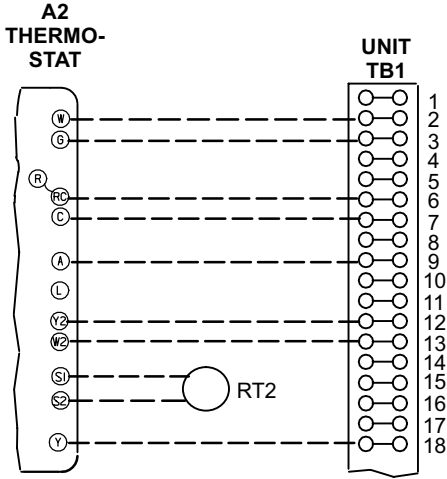

Figure 7 - Wire LG/LC/LH/SG/SC Units.
- See figure 7 through 10 for wiring diagrams from specific equipment applications.
- Wire the "A" terminal as shown in diagrams in figures 7, 8, 9 and 10.